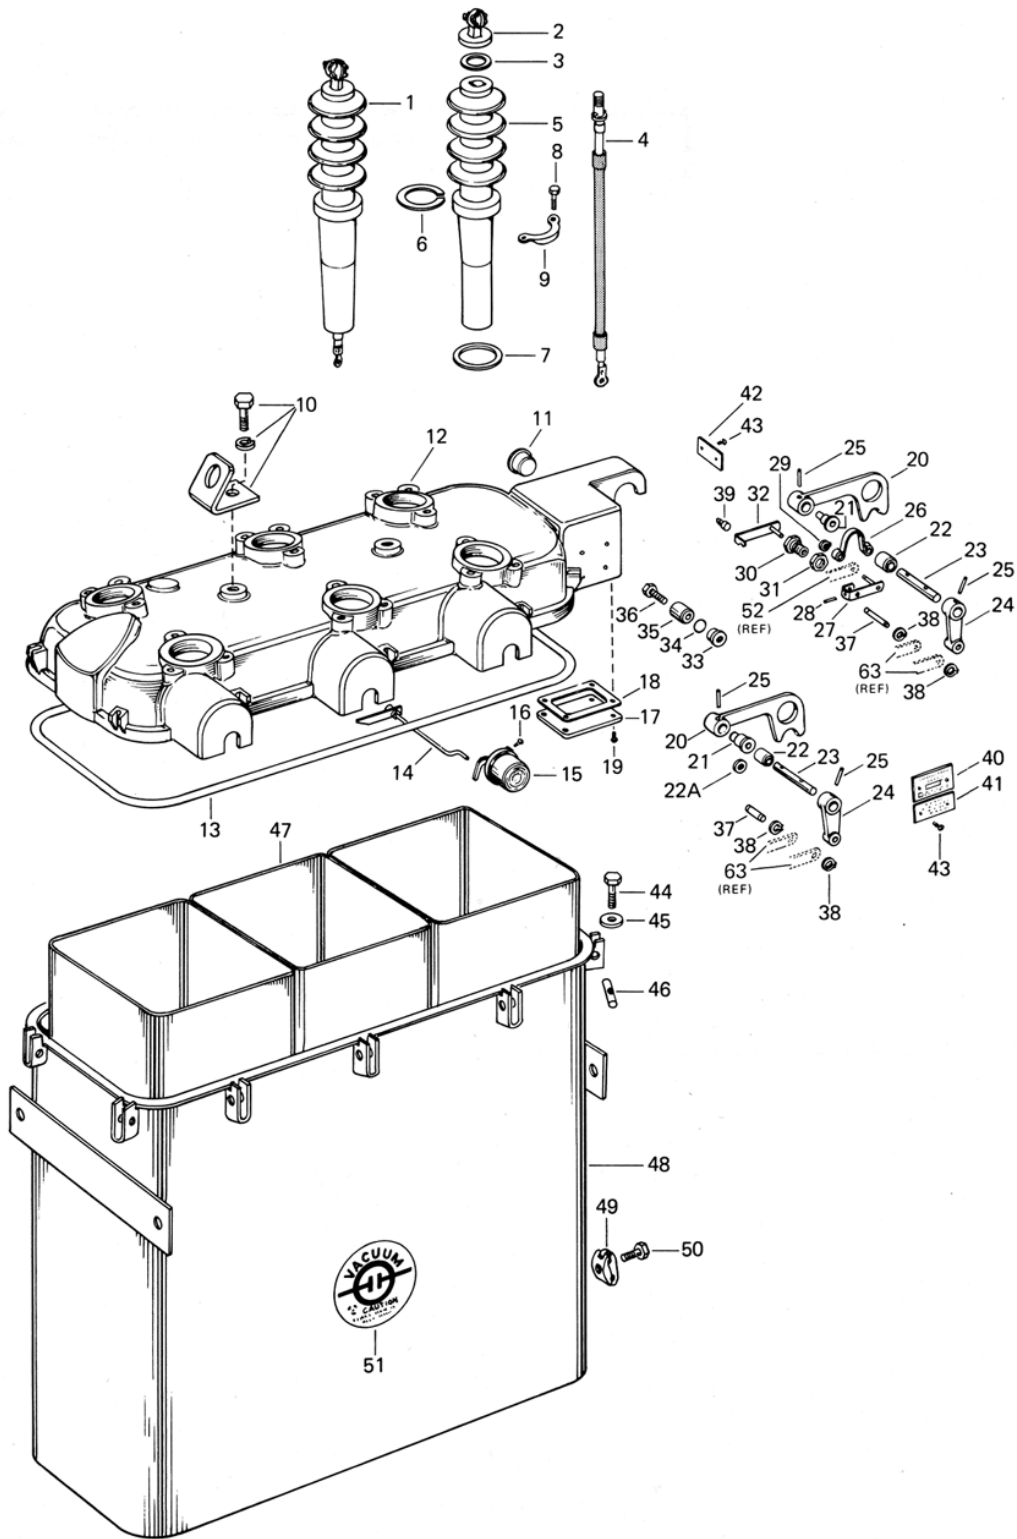

Figure 25. Tank assembly
3. Remove the cover plate and gasket adjoining operating handle sleet hood (Figure 25).